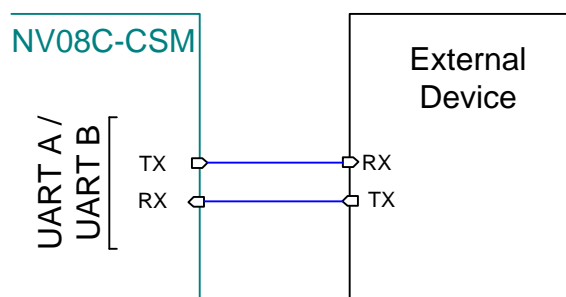

Fig. 8. Connecting the NV08C-CSM to an external device to download Patch Code (FW)
To download Patch Code (FW) via a UART interface (**Fig. 8**) the following command must be sent to the NV08C-CSM: